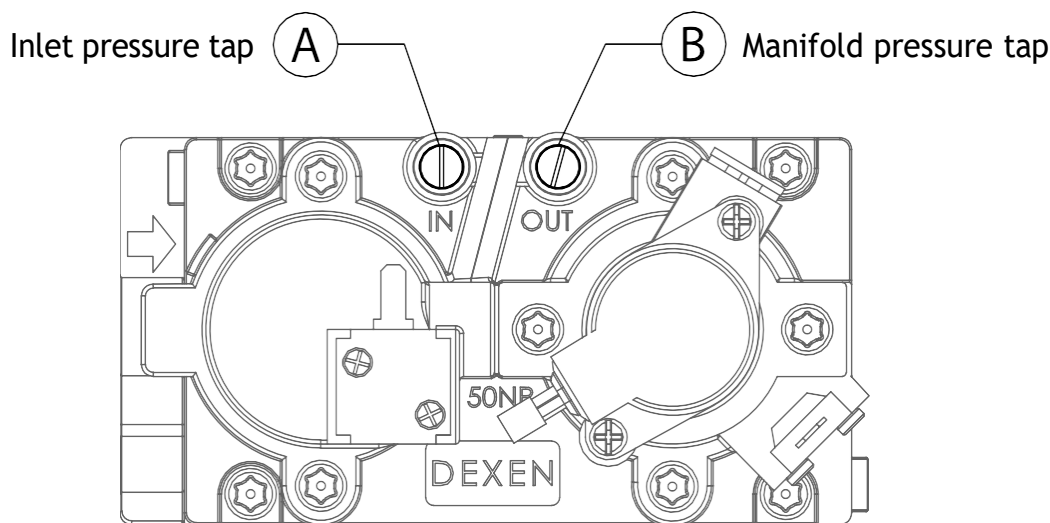

FIGURE 10.1 Pressure Check Taps
1. Loosen the inlet (IN) pressure tap by turning screw counter-clockwise. See (A) in FIGURE 10.1.
5. Disconnect hose and tighten the inlet (IN) pressure tap by turning screw clockwise. Screw should be snug. Do not over tighten.
6. Relight pilot and burner. Then reattach manometer to the inlet pressure tap (A) to verify the tap is completely sealed. Manometer should read no pressure.
2. Loosen manifold (OUT) pressure tap by turning screw counter-clockwise. See (B) in FIGURE 10.1.
7. Attach the manometer to the manifold pressure tap (B) to verify it is completely sealed. The manometer should read no pressure when pilot and burner are on.